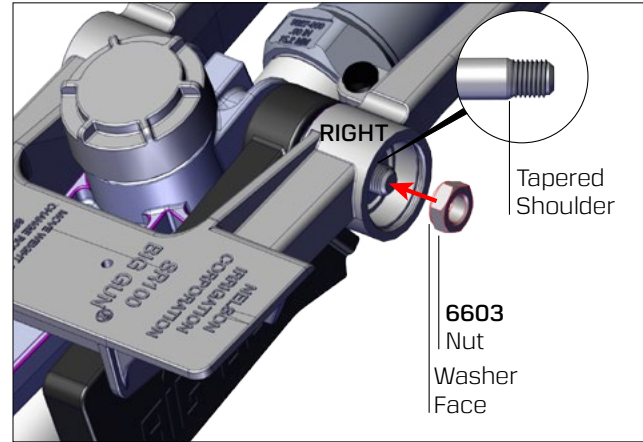

Fig. 21.
- E. Install **#6603** nut onto shaft with washer face of nut towards the tapered shoulder of the shaft (see Fig. 21). Torque nut to 25 ft-lbs (34 N-m).